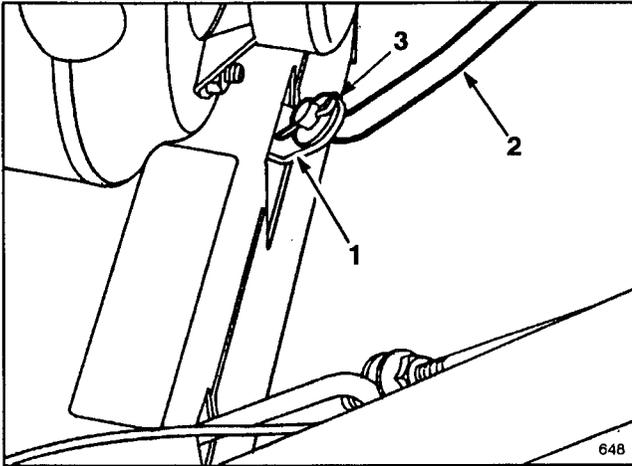
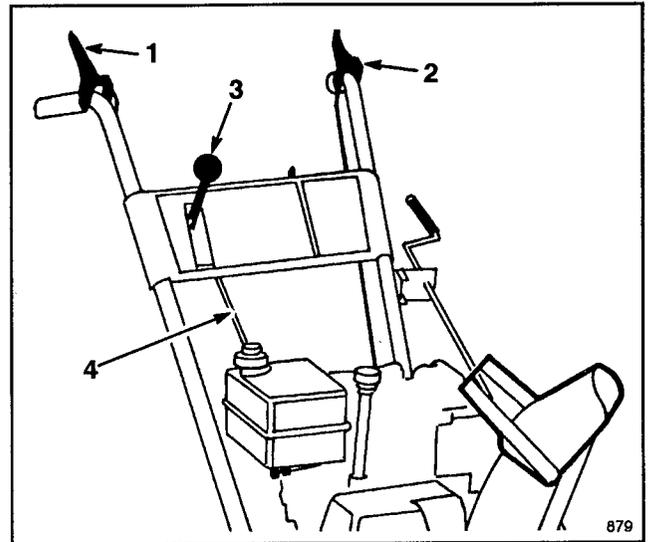

Figure 4
Figure 6
1. Pull speed selector arm (Fig. 4) to the fully "out" position and move speed selector (Fig. 6) on control panel to the R (REVERSE) position to ease assembly.
2. Install speed selector rod into selector arm, add one flat washer on the selector rod and secure with cotter pin (Fig. 4).
4. Adjust the two flange nuts up or down on the traction control rod until the distance between the top of the handgrip and the bottom of the traction control lever (Fig. 6 and 7) is approximately  $4\frac{3}{8}$  inches. **This is a preliminary setting only.** Tighten the two flange nuts finger tight.
5. Move speed selector (Fig. 6) into third gear.
3. Check the distance between the top of the handgrip and the bottom of the auger control lever (Figs. 6 & 9). Distance should be approximately four inches. **This is a preliminary setting only.**